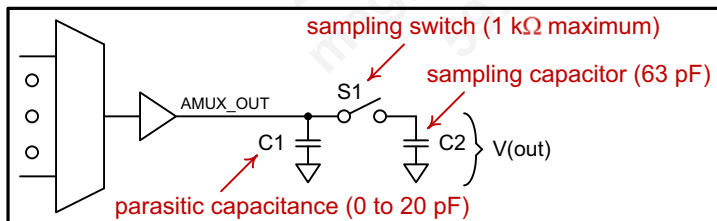

Figure 3-9 Analog multiplexer load condition for settling time specification
- The AMUX output and a typical load is modeled in Figure 3-9. After S1 closes, the voltage across C2 settles within the specified settling time.